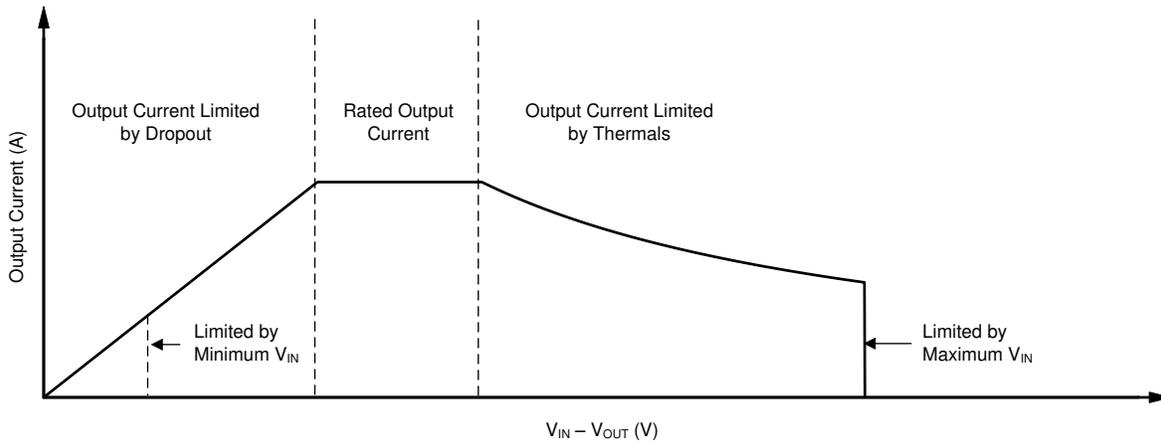

图 8-3. Continuous Operation Diagram With Description of Regions
The operational area of an LDO is limited by the dropout voltage, output current, junction temperature, and input voltage. The recommended area for continuous operation for a linear regulator is illustrated in 图 8-3 and can be separated into the following regions:
- 图 8-3 provides the shape of the slope. The slope is nonlinear because the maximum rated junction temperature of the LDO is controlled by the power dissipation across the LDO; thus, when  $V_{IN} - V_{OUT}$  increases the output current must decrease.